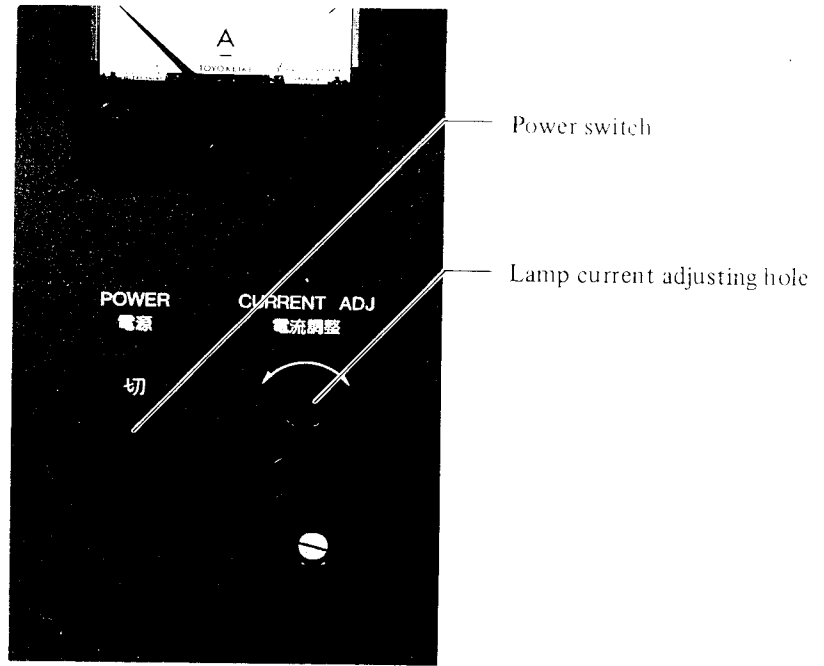

Fig. 13
f. Lamp current adjusting hole (Fig. 13)